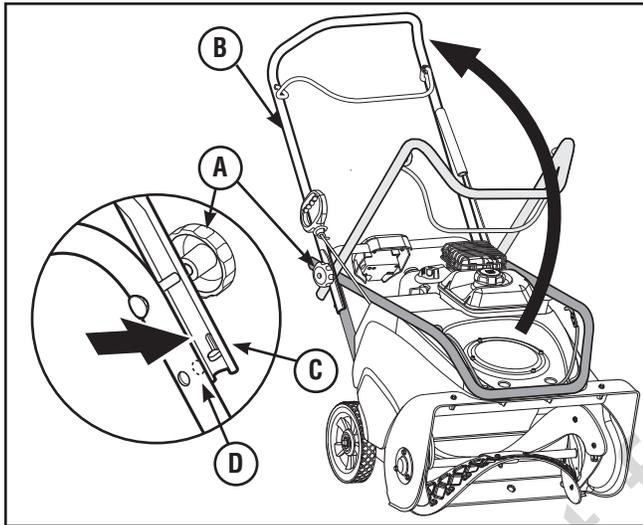

Figure 5
1. Loosen, but do not remove knobs (A, Figure 5) on both sides of upper handle.
2. Raise upper handle (B) to operating position, ensuring tabs (C) on lower ends of handle insert into holes (D) and lock into place.